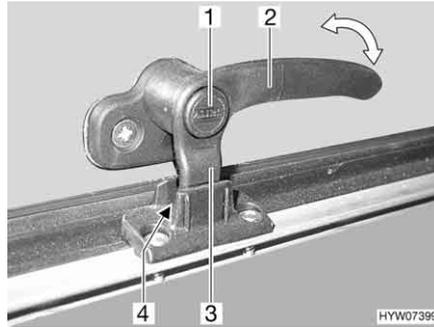
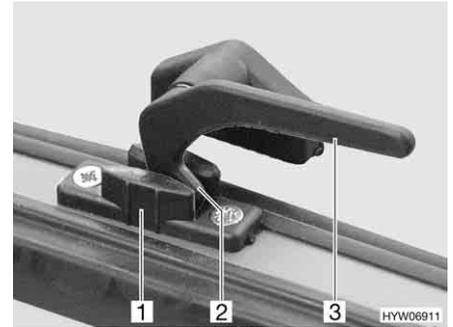

Fig. 77 Catch lever with safety knob in "continuous ventilation" position
Fig. 78 Catch lever in the "continuous ventilation" position
- "Continuous ventilation" (Fig. 77 and Fig. 78)
- Press and hold the security button (Fig. 77,1), if present.
- Turn the catch lever (Fig. 77,2 or Fig. 78,3) a quarter turn towards the centre of the window.
- Return the catch lever to its initial position. Move the locking catch (Fig. 77,3 or Fig. 78,2) on the catch lever into the recess of the window catch (Fig. 77,4 or Fig. 78,1).